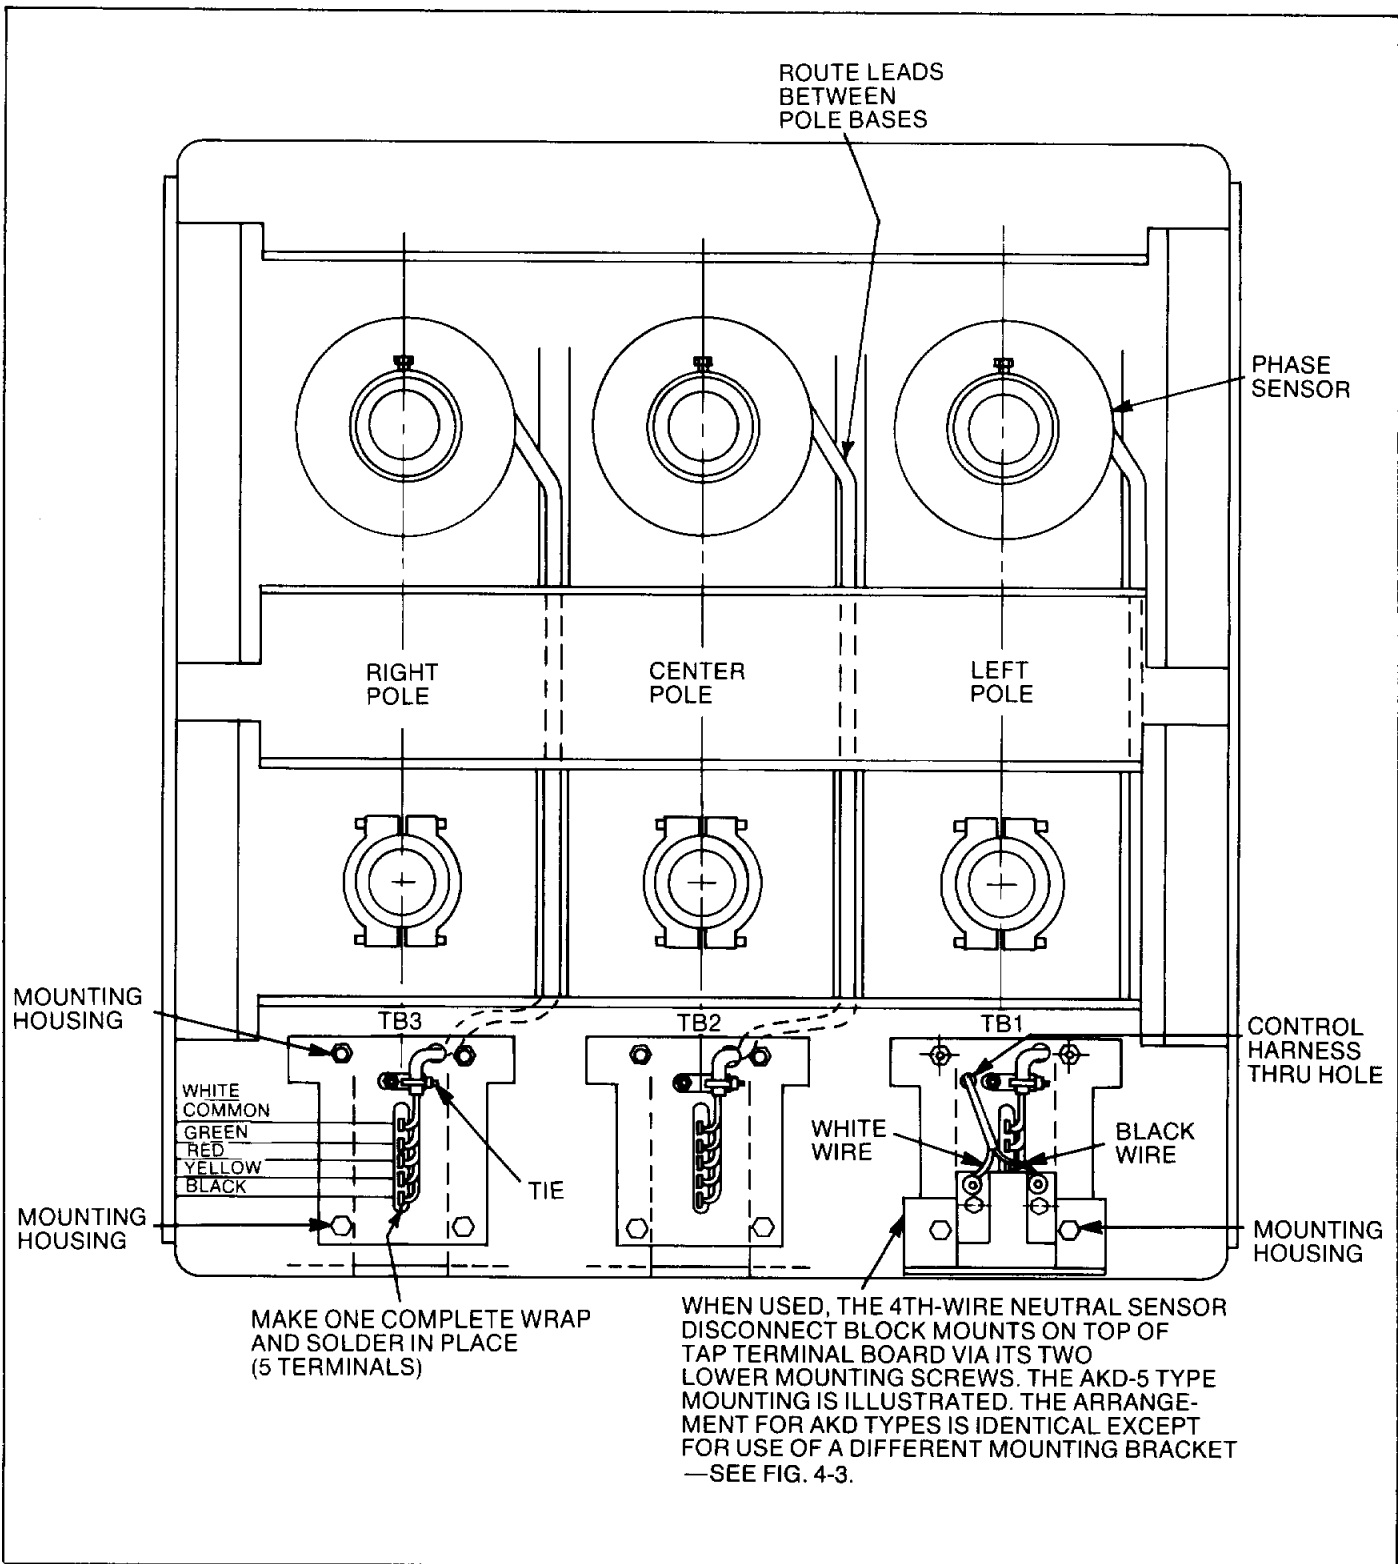

Fig. 3-8. Typical AK-75/100 brackframe conversion — rear view
2. The MicroVersaTrip™ sensors mount on the upper-breaker studs. The sensors are held on the stud with the locking rings, as shown in Fig. 3-6. Leave enough of the stud exposed for the primary fingers to engage. Engage the sensor's anti-turn lugs with the notch in the locking ring. Before tightening the locking rings, position each sensor so that its leads will exist between the pole bases, as shown in Fig. 3-8.
3. Mount the three sensor terminal boards to the rear of the back frame as shown in Fig. 3-8 using the hardware provided.
4. Form each sensor's leads downward between the pole bases and thru the hole in its terminal board as shown in Fig. 3-8. Wire tie and solder to the terminals as indicated. Be sure to position wire colors as shown.
The 4th-wire disconnect for the AKR-AKR-75/100 Drawout breaker mounts to the lower-back frame as shown in Fig. 3-8.
2. If the disconnect is being added, mount the disconnect assembly as shown in Fig. 3-8.